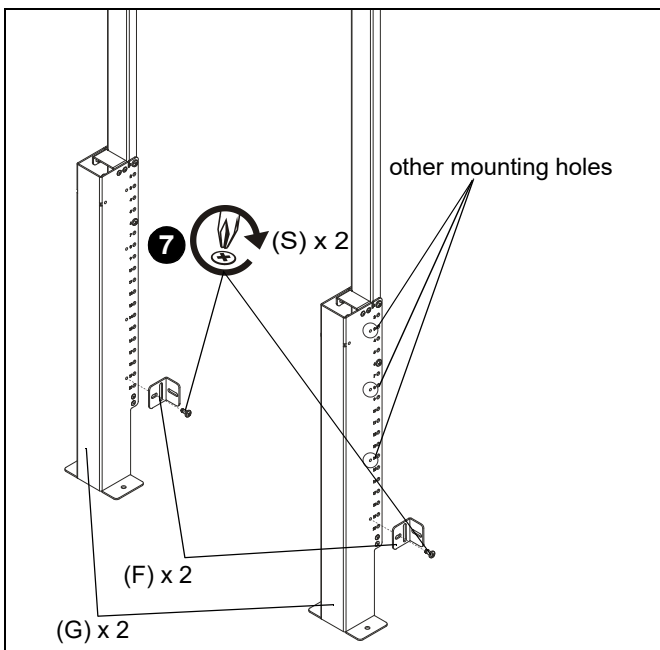

Figure 4
7. Use #3 drill bit (V) and two 1/4-20 x 1/2" button head cap screws (S) to secure two wall brackets (F) to bottom uprights (G). (See Figure 4)
NOTE: Any of the four holes on each upright (G) can be used on either side depending on where uprights were attached to each other and/or component storage panel location. (See Figure 4)